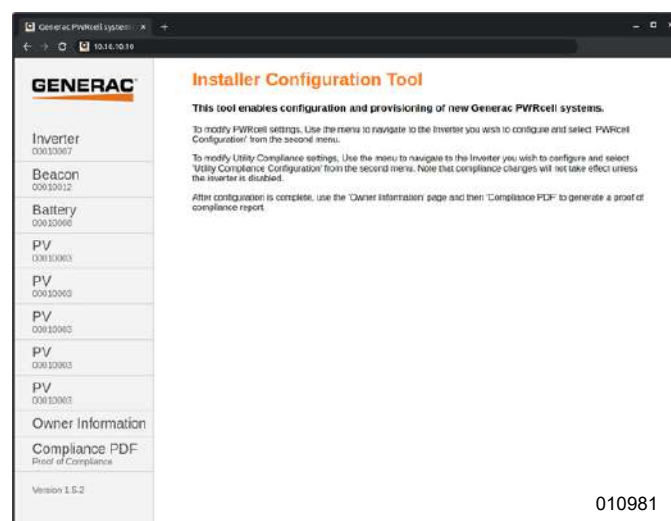

Figure 6-25. Installer Configuration Tool
5. See Figure 6-25. Open a web browser on a smartphone or laptop and enter 10.10.10.10 for the browser URL. The installer tool will appear in the browser.